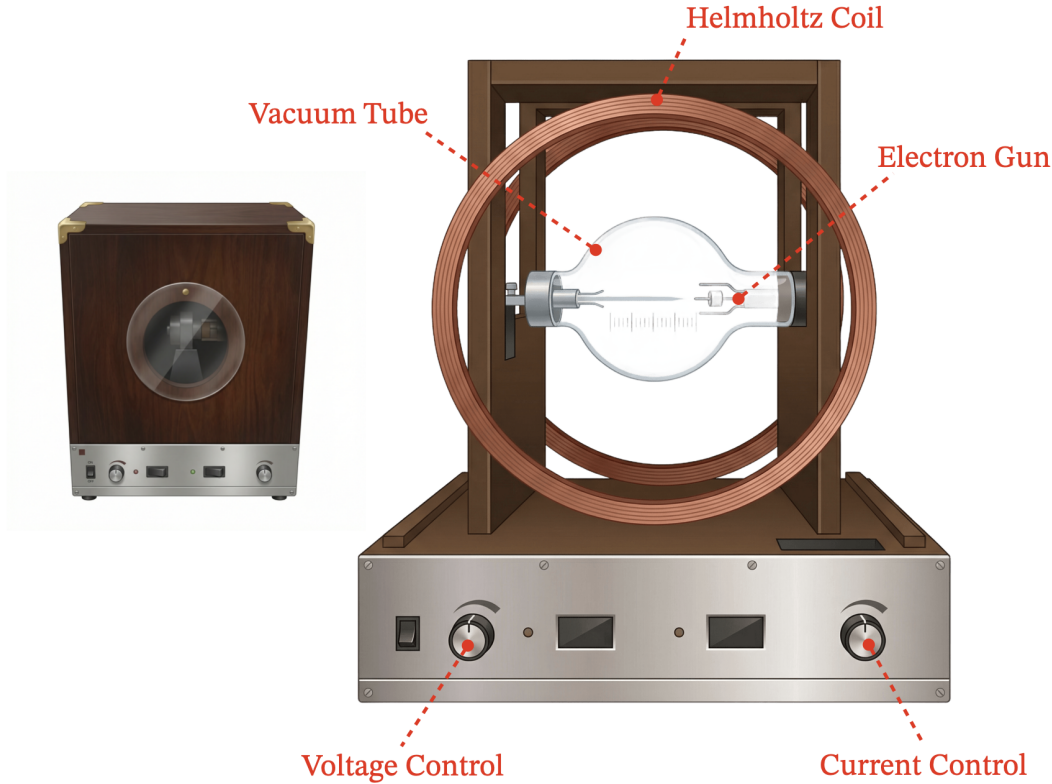

Figure 2: The vacuum tube and Helmholtz coil used to measure e/m_e in this experiment.
In this experiment, we will use the apparatus shown in Figure 2 to carry out the measurement sketched out in Figure 1.
1. Set the apparatus on a level table. The room light should not be too bright, or the electron beam will be hard to see. You may wish to use the “box” with the viewing window to reduce glare (see Fig. 2).